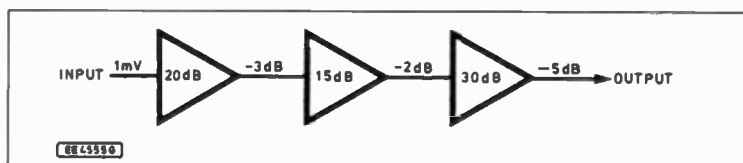

Fig. 7.2. A three-stages-in-tandem amplifier which introduces losses in the interstage coupling.
6. Fig. 7.2 shows an amplifier system in which each active stage provides a positive voltage gain while the interstage couplings introduces losses. What is the output voltage of this system?